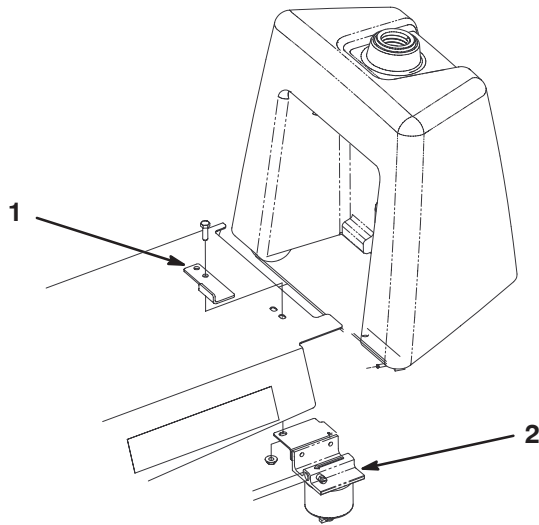

Figure 3
6. Remove capscrew and nut securing water separator bracket to underside of skirt (Fig. 3).
7. Using capscrew and nut removed and a 5/16 x 1" capscrew and nut supplied in loose parts, secure the seat stop and water separator to under side of skirt with (2) capscrews and locknuts. Position stop as shown in figure 3.